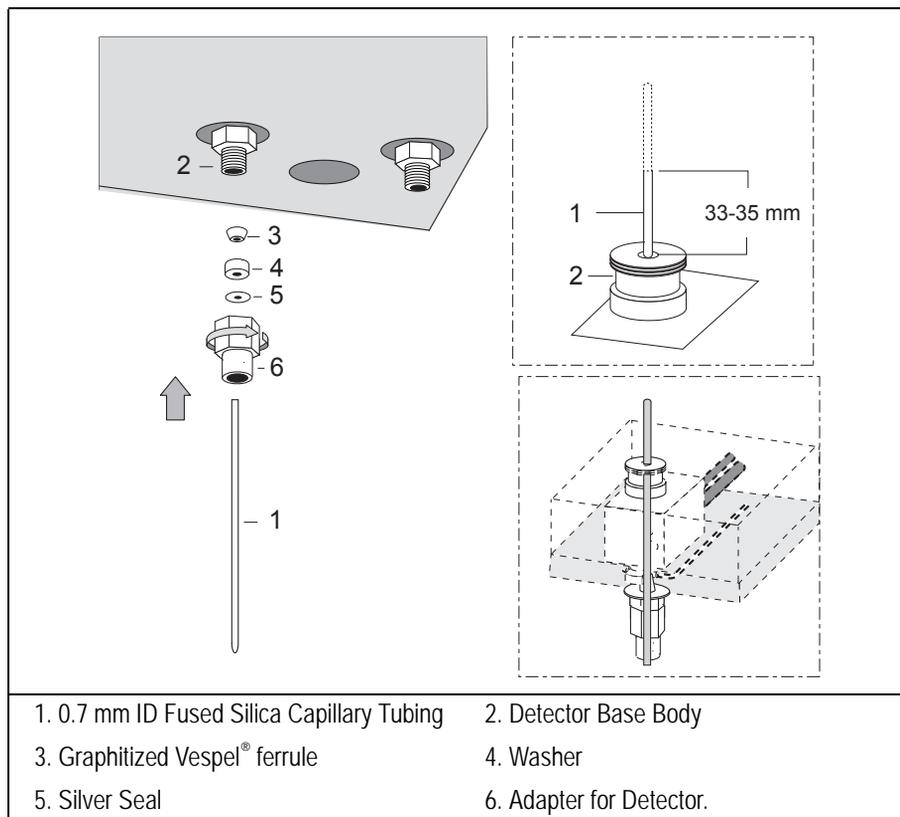

Figure 14-14. Connection to the PDD Detector (1)
Insert the appropriate fittings on the capillary tubing in the following order as shown in Figure 14-14.
4. Push up the capillary tubing until the upper end protrudes from the detector base body and the lower end is at the same level of the base of the adapter retaining nut as shown in Figure 14-14.
5. Finger-tighten the adapter retaining nut until it starts to grip the detector base. The capillary tubing must protrude from the detector base body from 33-35 mm, then cut the exceeding portion as shown in Figure 14-14.